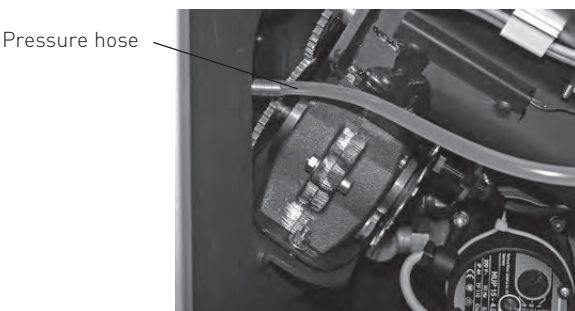
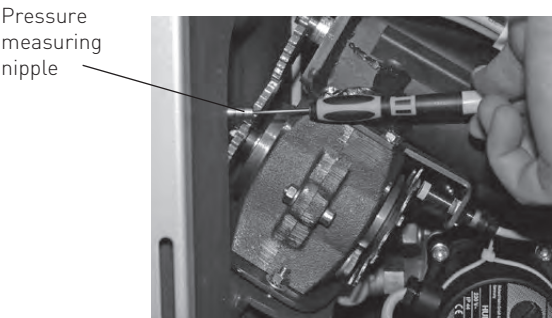

Fig. 156 Pulling off the pressure hose
Fig. 157 Cleaning the induction opening with a small screwdriver or the like
- Pull the pressure hose off the pressure measuring nipple (Fig. 156) and clean the induction opening in the pressure measuring nipple, e.g. using a small screwdriver, drill bit or the like – Fig. 157.